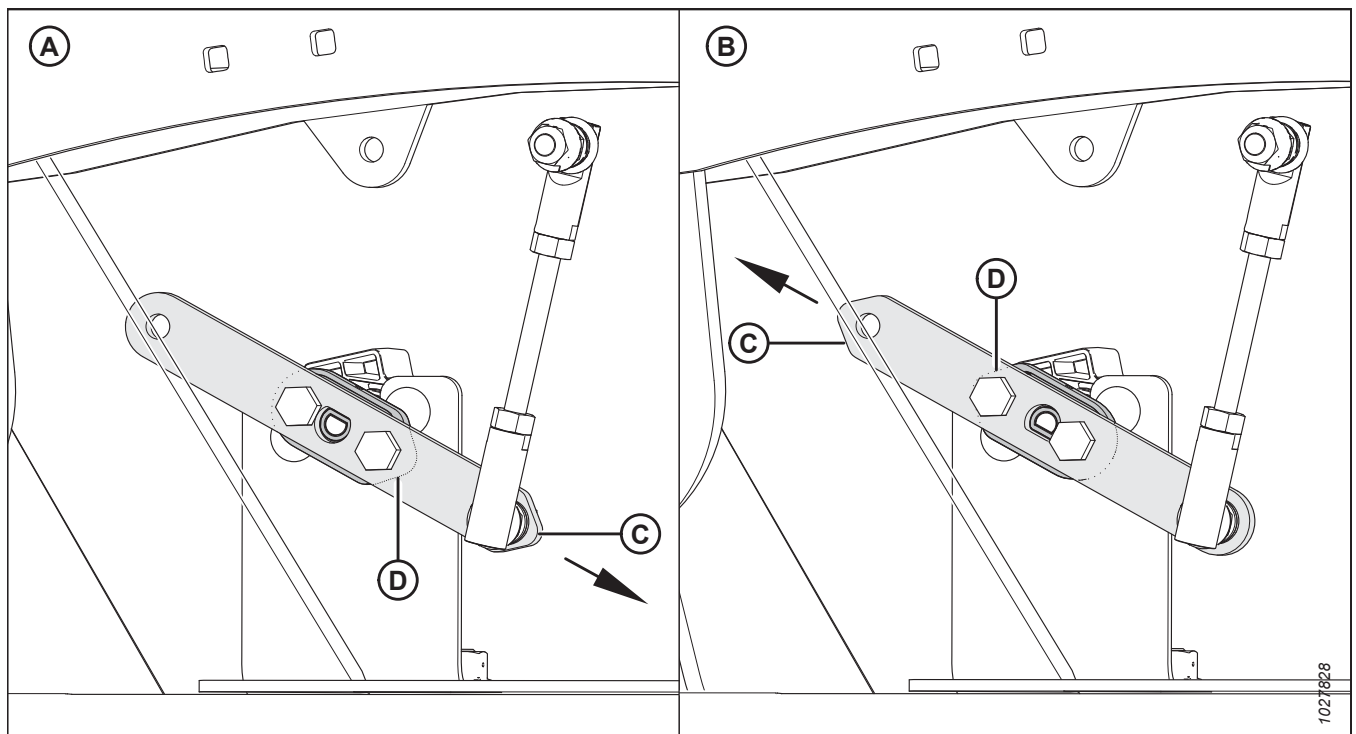

Figure 3.103: Sensor Arm/Pointer Configurations
2. Check that sensor arm (C) and pointer (D) are configured properly for your machine. Refer to Figure 3.103, page 99.